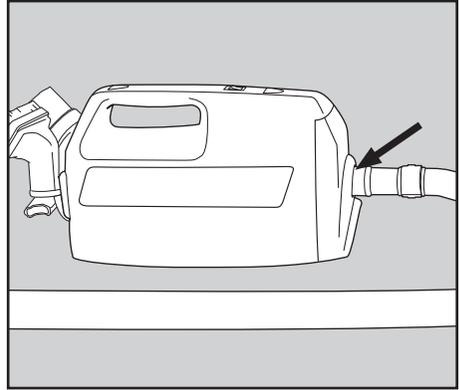

Fig. 4
- Attach the vacuum hose to the suction intake port and twist to lock into place (Fig. 4).
- Attach the vacuum hose to the suction intake port and twist to lock into place (Pg. 7, Fig. 4).